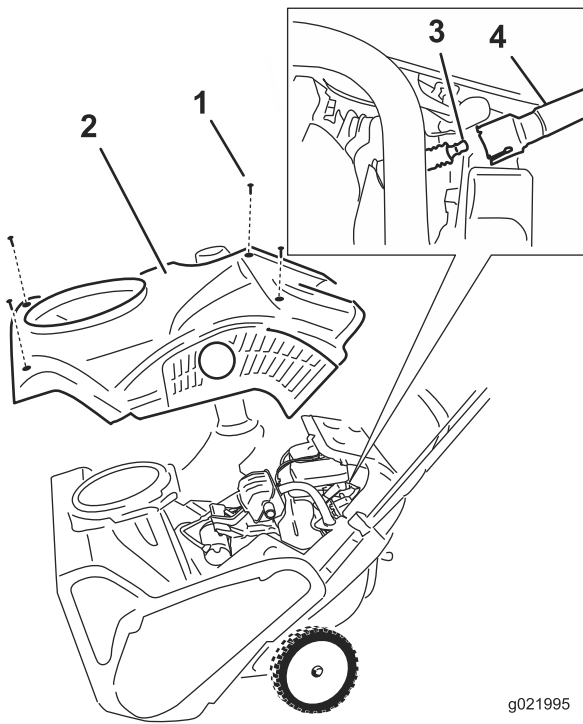

Figure 31
4. Remove the 4 screws that secure the shroud (Figure 31).
6. Remove the shroud (Figure 31).